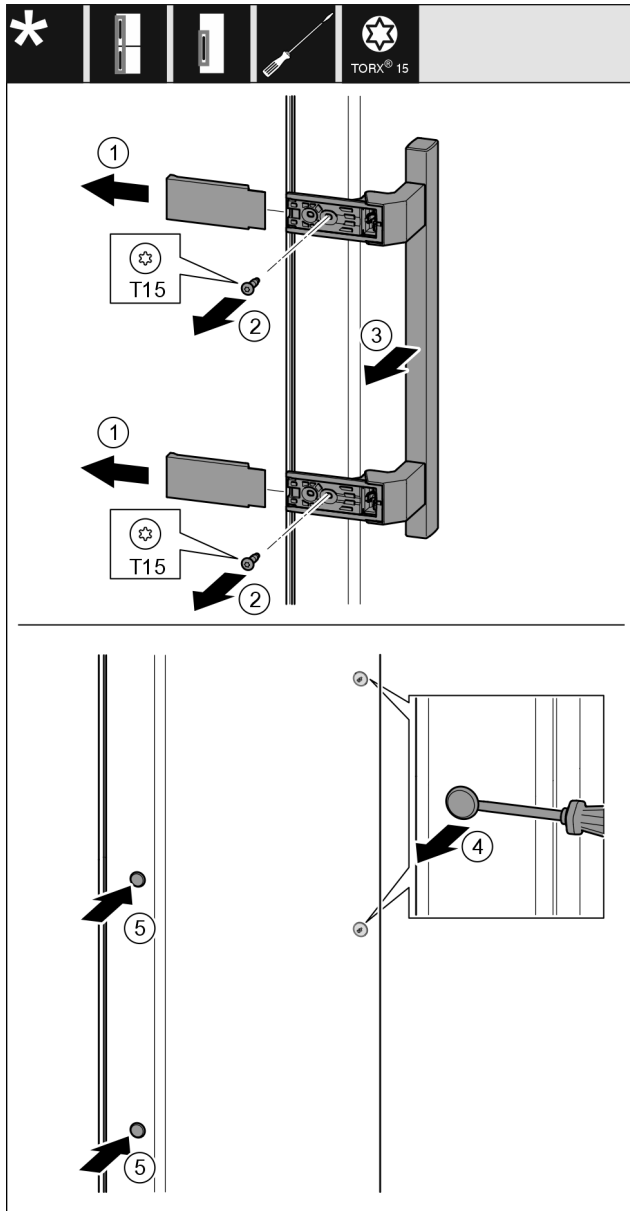

Fig. 20
- ▶ Remove the cover *Fig. 20 (1)*.
- ▶ Unscrew screws *Fig. 20 (2)* with screwdriver.
- ▶ Remove the handle *Fig. 20 (3)*.
- ▶ Use a slotted screwdriver to lift the side plug *Fig. 20 (4)* carefully and pull it out.
- ▶ Re-insert the plug *Fig. 20 (5)* on the other side.